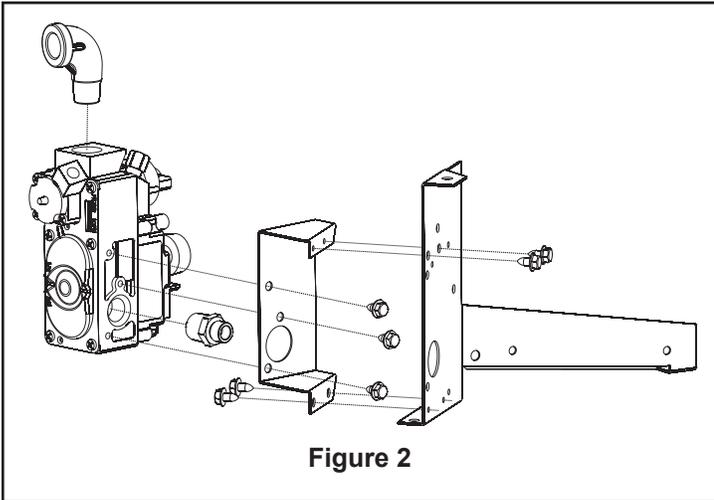

Figure 2
10. Remove plastic plug and install main burner brass fitting removed in step 8 into side of Dexen valve. Use thread sealant to secure. **See Figure 2.**
12. Attach valve bracket onto valve. Secure to valve with three (3) 10 x 5/16" self tapping screws (provided). **See Figure 2.**
13. Attach valve bracket to burner leg with four 10 x 1/2" hex head screws provided. The top two screws from inside of leg, bottom two screws from outside of leg and under valve. **See Figure 2.**